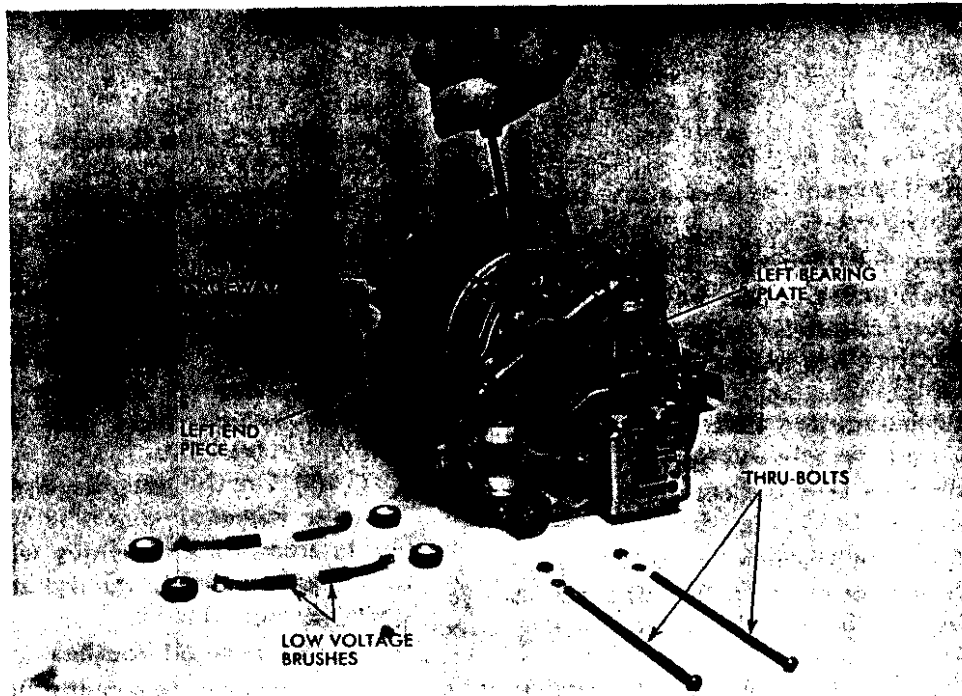

Figure 115. Generator GN-58-A-GY, prying off generating unit left endpiece.
- e. Remove the two through-bolts from the left generating unit endpiece (fig. 115).